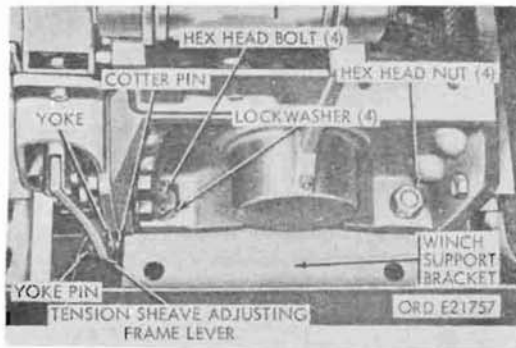
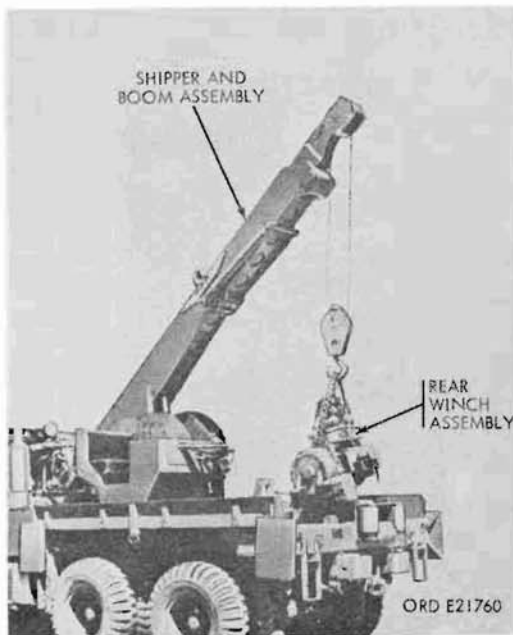

Figure 322. Top view of right end of rear winch - M60
Figure 325. Removing rear winch assembly using wrecker crane M60
- (1) Remove cotter pin (fig. 322) and yoke pin securing air-chamber push-rod
- (4) Remove four hex-head bolts (fig. 322), nuts, and lockwashers securing winch to left and right support brackets.
- (5) Remove chain and hook assembly from winch cable.
- (6) Using wrecker crane (fig. 325) or other overhead hoisting equipment, remove rear winch from vehicle.
- (2) Secure winch to support brackets with four hex-head bolts (fig. 322), lock-washers, and nuts.
- (3) Pass cable between tension sheaves of cable tensioner (fig. 325) and between upper and lower guide rollers and install chain and hook assembly on cable.
- (6) Position air-chamber push-rod yoke on lower end of tension-sheave-adjusting-frame lever (fig. 322), and secure with yoke pin and cotter pin.